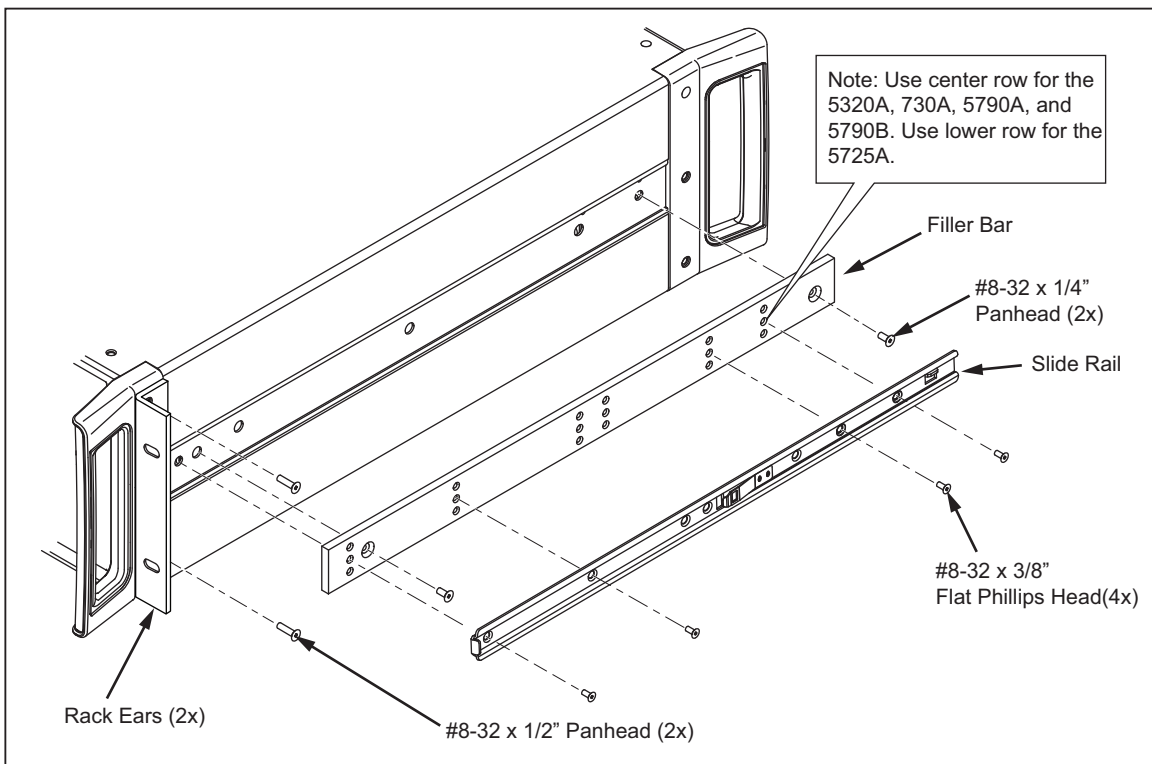

Figure 1. Attaching Hardware to the Instrument
1. Attach the rack ears to the instrument using two #8-32 x 1/2" pan-head screws for each ear as Figure 1 shows.
2. Install the filler bars on the sides of the instrument using two #8-32 x 1/4" truss-head machine screws per bar as Figure 1 shows, making sure the first tapped hole closest to the end of the bar is toward the front of the instrument.
4. Attach the slide rails to the filler bars using four #8-32 x 3/8-inch pan flathead screws for each rail as Figure 1 shows. Mount the 5730A, 5790A, and 5790B slide rail to the center row of holes. Mount the 5725A slide rail to the lower row of holes. (See Figure 1.)